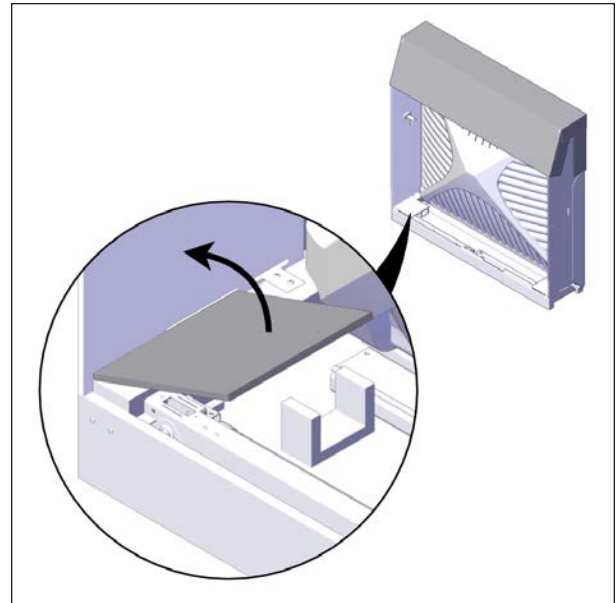

FIGURE 25: FOOTING PIECE OF WOOD REMOVAL
12. Pry off the footing piece of wood using your hands or a hammer if needed. There is one piece per side see Figure 25.